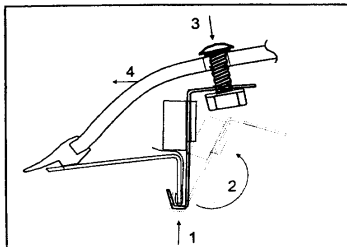

Figure 3. Cross sectional view during installation
-The tape must be positioned to protect the vehicle from the "D" spacer and the metal clip as shown in figure 3.
3. Install the clip assemblies and the deflector on the vehicle as shown in figure 3.
4. Before tightening, push forward lightly on the deflector (figure 3, step 4) so that the bolts tip slightly forward. This will ensure that no gap occurs between the clip and the roof during tightening of the assembly. Straighten the rubber gasket if necessary.